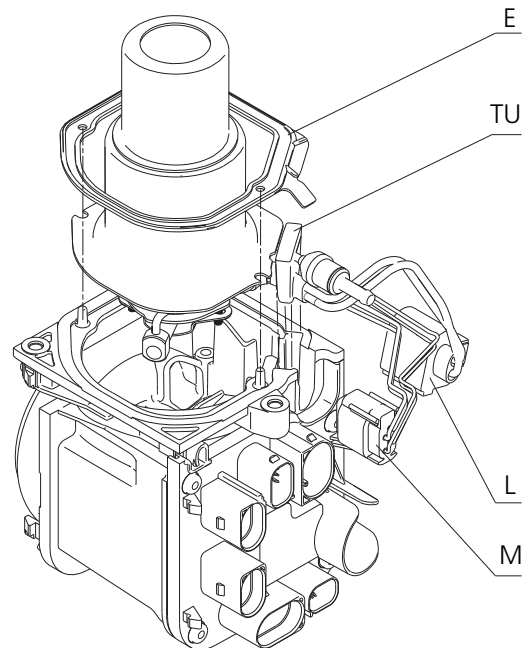

Fig. 906 Removing and installing burner
Dismantle heater as described in section 9.2.1 up to point 8. Pull off connectors (L and M, Fig. 906). Set down fan vertically with burner facing upward.
1. Preposition burner with grommet (TU, Fig. 906) in fan housing. Press grommet (TU) into groove provided until it completely fills out installation space.
2. Mount gasket (E) on positioning pins of fan housing with flat side facing fan.